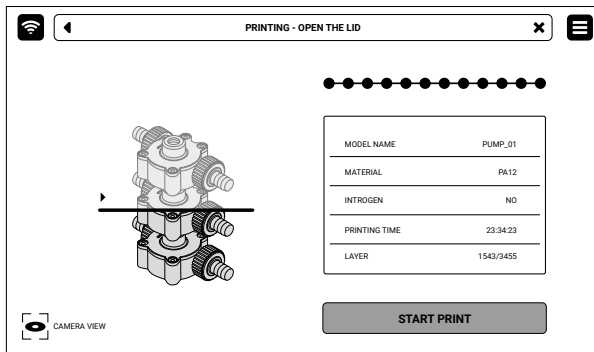

Fig. 6.12 The **START PRINT** screen.
2. Press **START PRINT** (fig. 6.12). Before printing, an automatic component check will be performed (fig. 6.13).